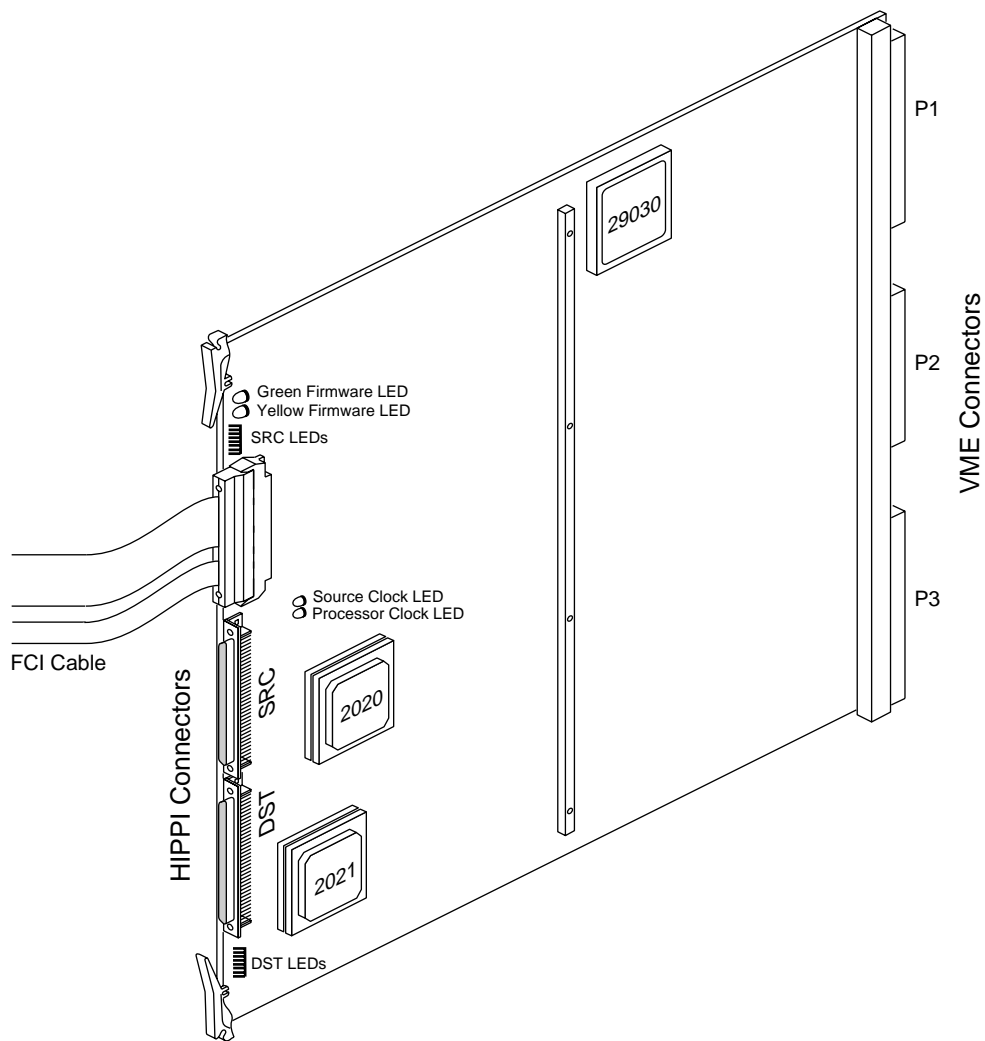

Figure 2-20 IRIS HIPPI Board
1. Hold the HIPPI board vertically so that the HIPPI and FCI connectors face you, the VMEBus connectors face away from you, and the side of the board with the most components faces to your right, as shown in Figure 2-20.